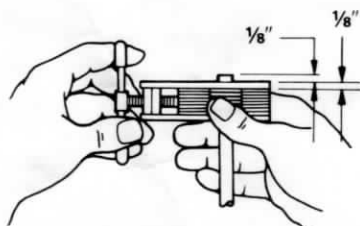

Fig. 1
3. Insert tubing into the adjustable opening of the tube-holding assembly. Position the end of the tubing approximately $\frac{1}{8}$ " above the top surface of the holder. Cover plates of the holder are $\frac{1}{8}$ " thick and can be used as a comparison gauge for positioning tubing. (See Fig. 1.)